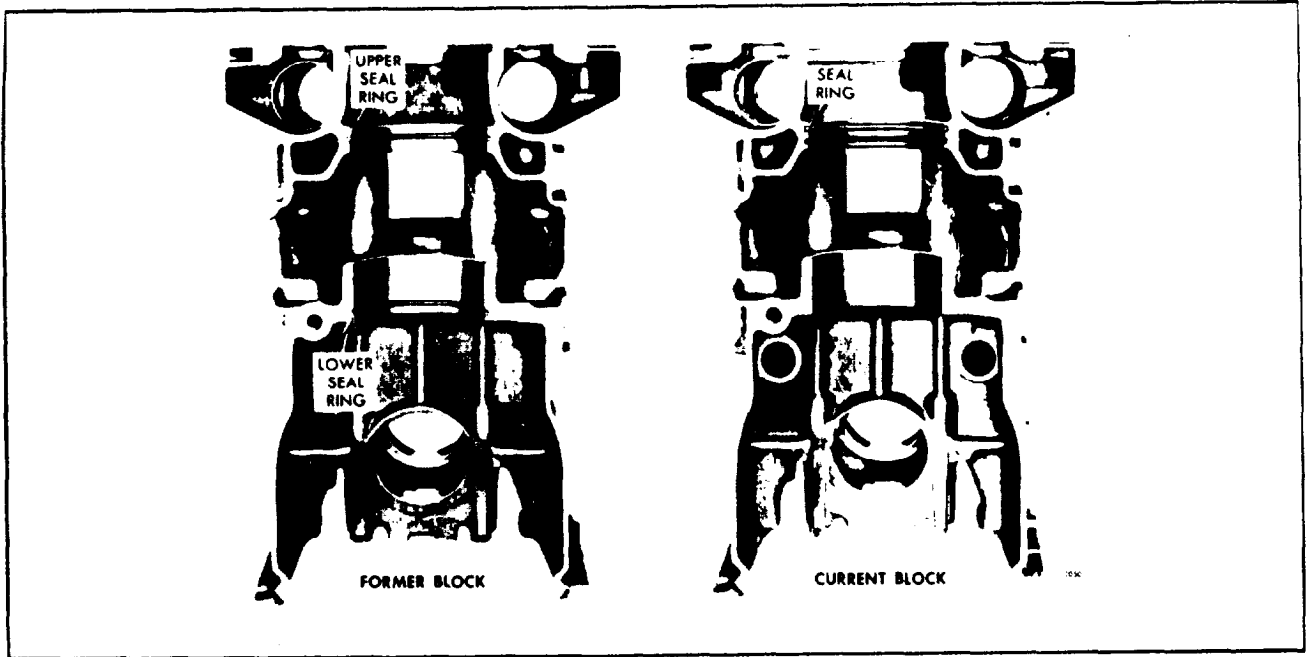

Fig. 9 - Cylinder Liner Seal Ring Location in Cylinder Block Bore
**NOTE:** The current cylinder block has an additional seal ring groove approximately 1/8" below the original top groove (Fig. 9). This groove will permit further use of the cylinder block where corrosion or erosion of the upper seal ring groove has occurred. The lower seal ring groove in the current cylinder block has been eliminated. Reinstallation of the lower seal ring is not necessary in the former cylinder block.